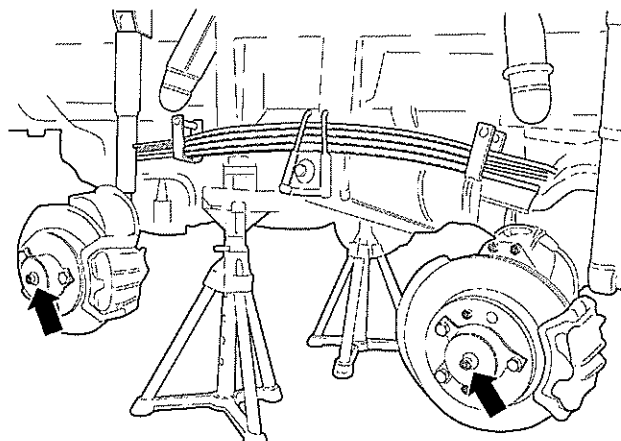

Fig 23 Axle base measurement
26.4 Clean contact surfaces and centring collar of brake discs. Fasten suitable measuring flanges to wheel hubs (see Fig 23).